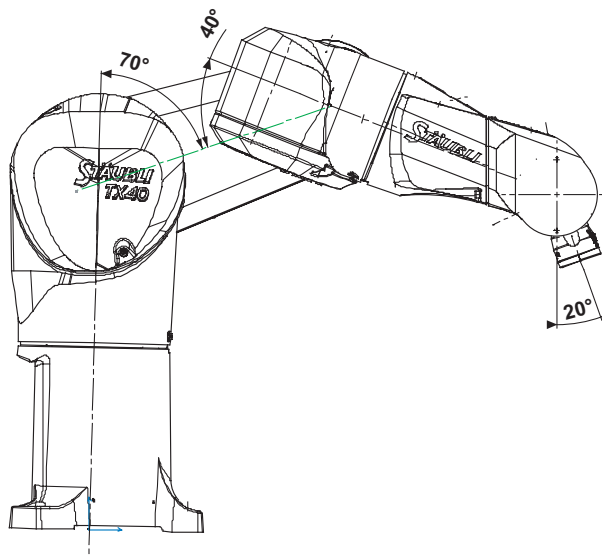

Figure 2.7
(1) In all configurations and taking maximum inertias into account. See table below.
(2) Maximum load for which the maximum arm extension cannot exceed that shown in figure 2.7.